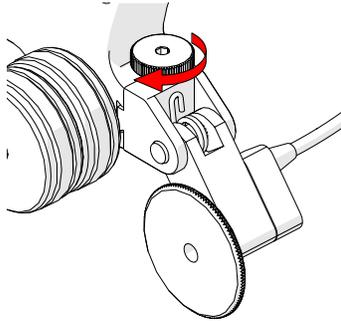

Fig. 37 - Tighten knob
2. Tighten the encoder's knob (Fig. 37).